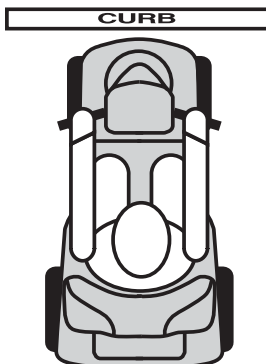

Figure 3. Correct Curb Approach
**WARNING! Be sure your scooter is traveling perpendicular to any curb you may be required to ascend or descend. See figures 3 and 4.**